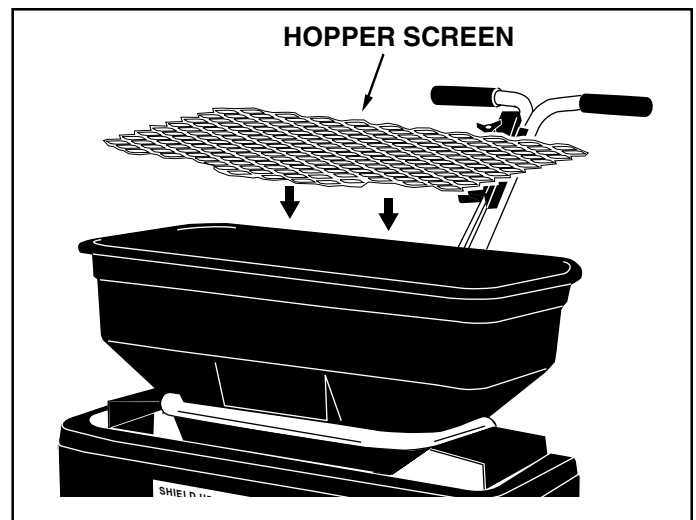

FIGURE 16
28. Place the hopper screen down into the hopper to help break up clumpy material and to prevent large clumps from reaching the bottom of the hopper and clogging the opening. See figure 16.